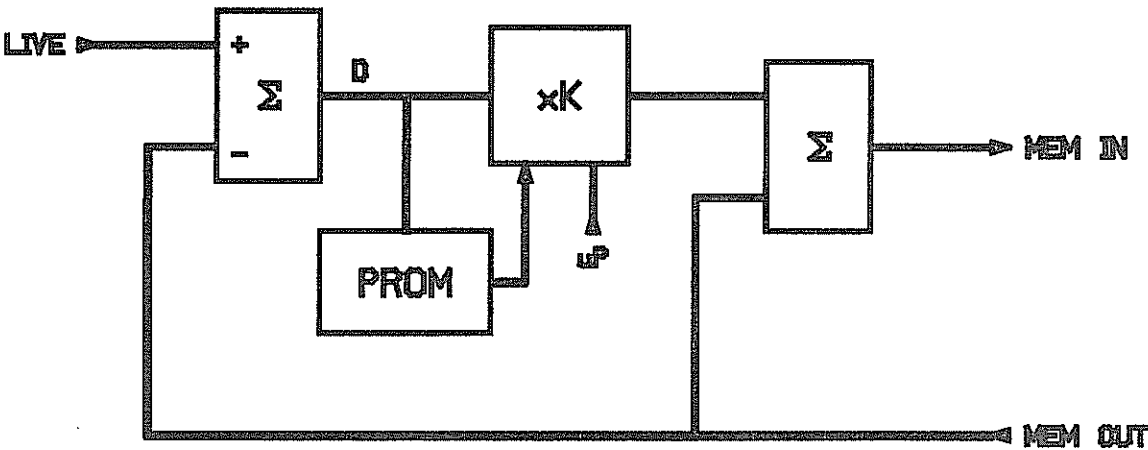

Figure 3: Simplified diagram of the noise reducer
- LSUB 1 or LSUB 2 selects the multiplication factor which is set by the switches S1 and S2 (see fig. 3).
- Addition is filled in by the switches S4.1, S4.2 and S3. (See fig. 3).